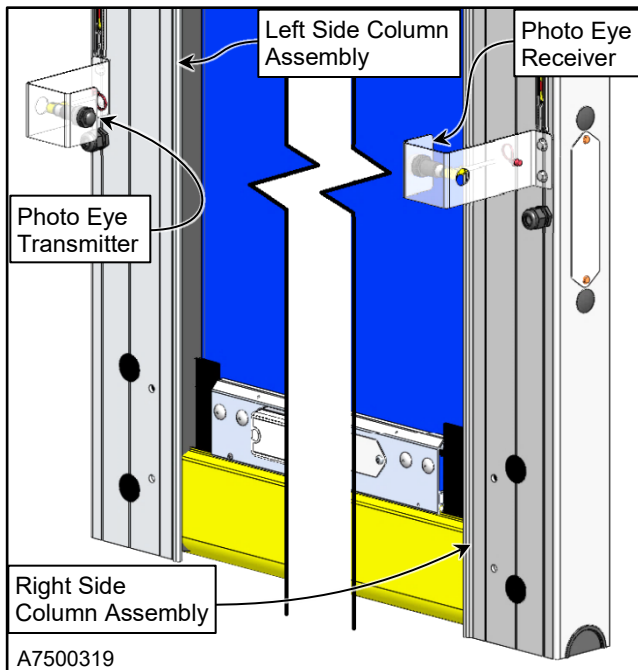

Figure 49
1. Check to see that the photo eyes on the front side of the door have been installed for a horizontal beam across the door opening. (See Figure 49)
When the photo eyes are aligned, the yellow light of the receiver module will be illuminated. (See Figure 49)
3. When the photo eyes are aligned, the yellow light of the receiver module will be illuminated. (See Figure 49)